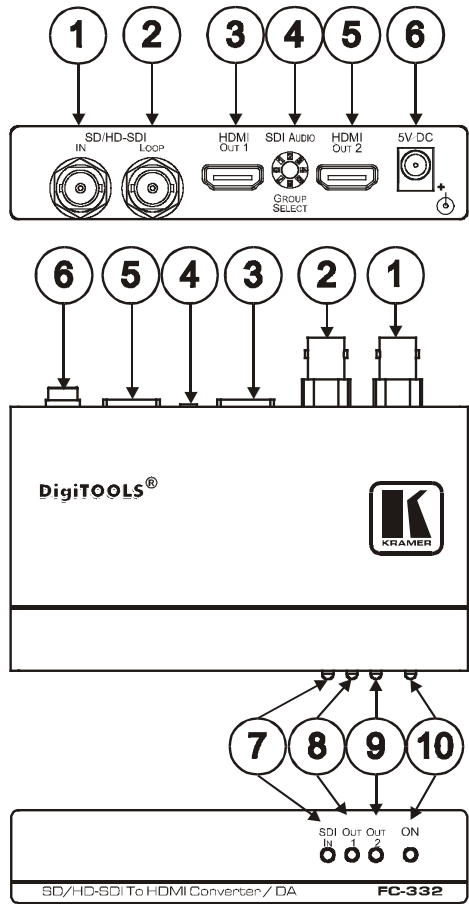

Figure 1: FC-332 SD/HD-SDI to HDMI Converter/DA
*Figure 1 and Table 1 define the **FC-332 SD/HD-SDI to HDMI Converter/DA**:*